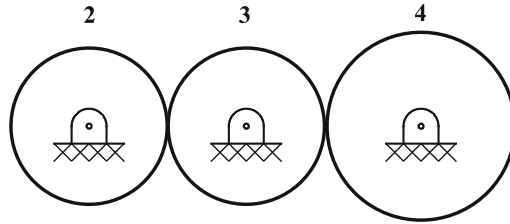

Fig. 2.27 A three-gear system
Example Where is the instantaneous center of rotation (24) in the three-gear system shown in Fig. 2.27?
- 1) In the middle of the center line of circles (2) and (4)
- 2) Point of contact of circles (2) and (3)
- 3) Intersection of the center line with the common internal tangent of circles (2) and (4)
- 4) Intersection of the center line with the common external tangent of circles (2) and (4)